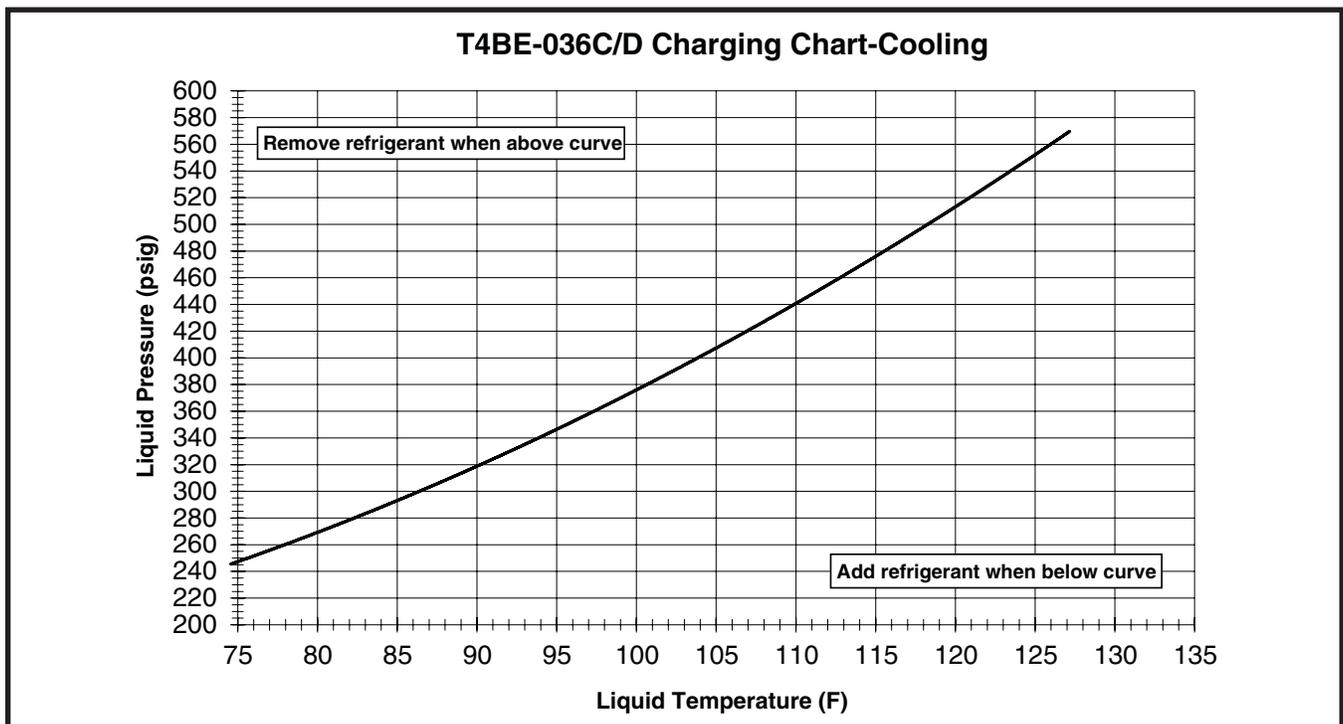
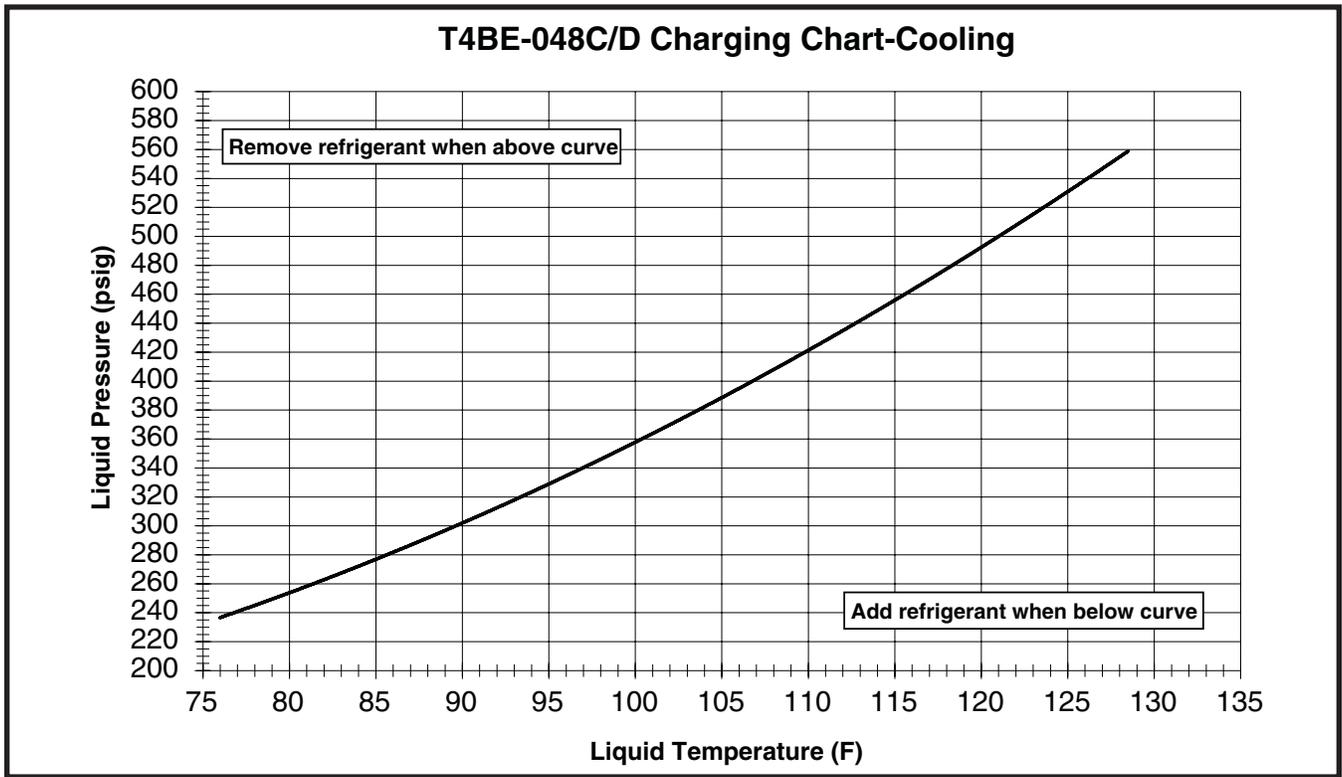
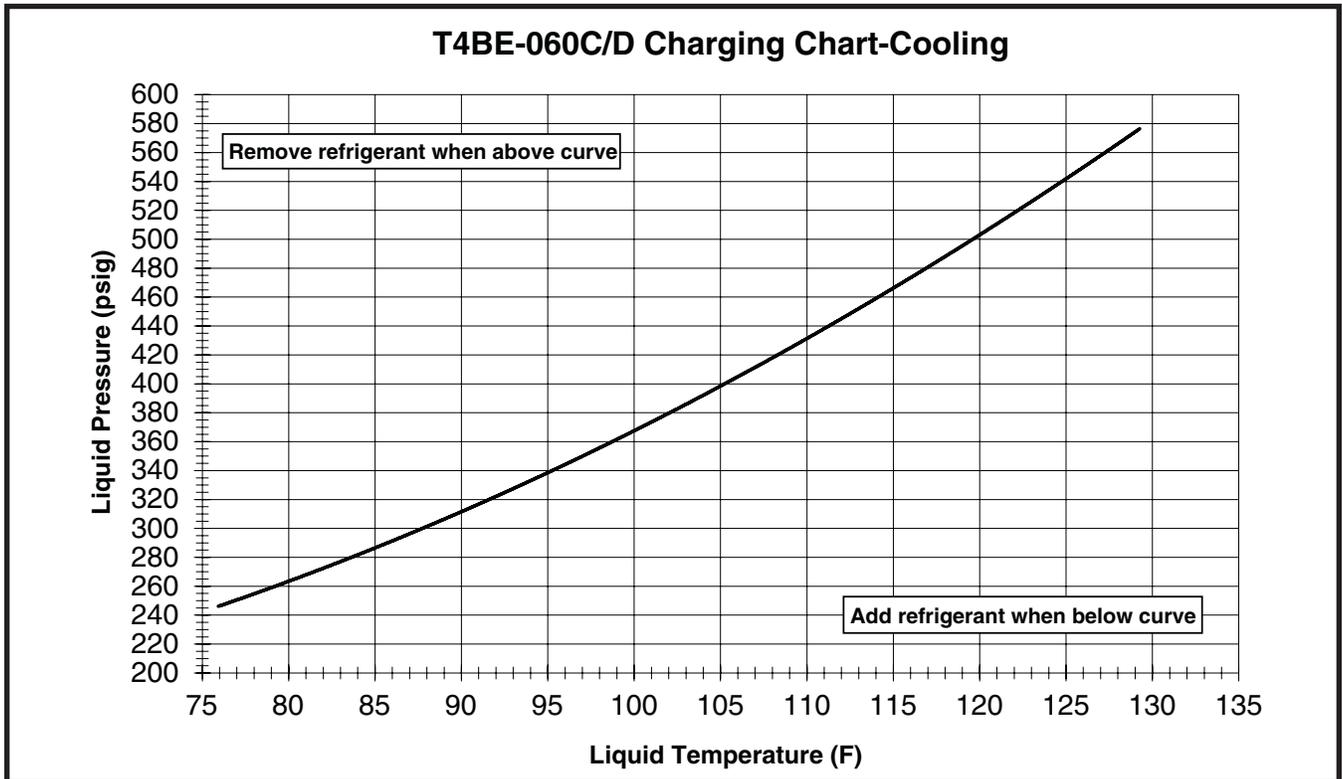

Figure 5. Charging Chart for 3 Ton Models (TXV Matches)
Figure 6. Charging Chart for 4 Ton Models
Figure 7. Charging Chart for 5 Ton Models
- Cooling mode charging charts and tables are applicable only to matched assemblies of this equipment and listed airflows for the indoor coil. Refer to the Quick Reference Data sheet for additional charging information. Outdoor units with non-AHRI listed indoor coils are not recommended and deviations from rated airflows or non-listed combinations may require modification to the expansion device and refrigerant charging procedures for proper and efficient system operation. For correct system charging, refer to Figure 5 \(page 9\), Figure 6, & Figure 7 \(page 10\).
- Determine the required liquid refrigerant pressure from Figure 5 \(page 9\), Figure 6, & Figure 7 \(page 10\).
- Charging charts are valid for a variety of indoor, return air conditions and are most influenced by the outdoor ambient temperature, outdoor fan operation and the unit operating voltage. Before using these charts, make sure the unit is in a stable operating mode. As shown in Figure 5, Figure 6, & Figure 7 (page 10), the ideal system sub-cooling can vary over the range of operation. Reference the charts to determine the ideal amount of sub-cooling for a given liquid pressure. Units charged to other values will not perform at the rated unit efficiency (EER) or rated Coefficient of Performance (COP) in heating mode.